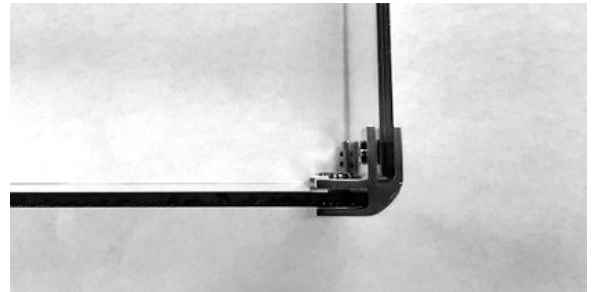

Figure 3
4. Press brackets over edge of glass and tighten two screws. DO NOT OVERTIGHTEN. Figure 3.